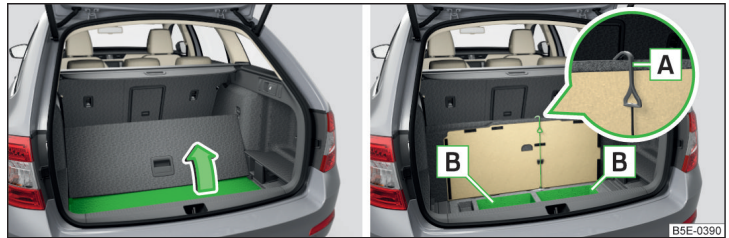

Fig. 138 Lift floor covering/storage compartments under the floor covering
For vehicles that are not equipped with an emergency wheel located under the flooring of the luggage compartment **B** » Fig. 138.
- » Lift the floor covering in the direction of arrow » Fig. 138 and hook into hook **A** on the upper edge of the variable loading floor.